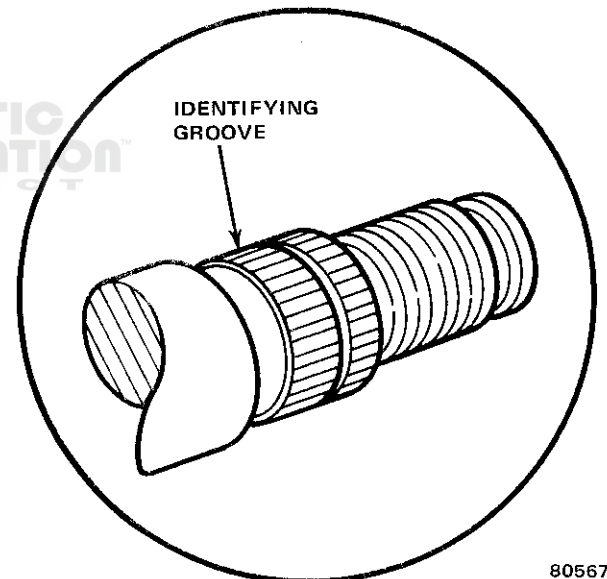

Fig. 2J-2 Metric Steering Shaft Identification
- (1) Disconnect battery negative cable.
- (2) Place front wheels in straight ahead position.
- (3) On models with standard steering wheel, remove horn cover attaching screws from underside of wheel and remove cover. On models with sport steering wheel, remove horn button by pulling button upward.
- (4) On models with standard steering wheel, remove horn wire. Disconnect wire at steering wheel switch. Unseat retainer that holds horn wire and spring in cancelling cam yoke and remove wire, retainer, and spring as assembly.
- (5) Remove steering wheel nut and washer.
- (6) On models with sport steering wheel, remove receiver bushing attaching screws and remove bushing, horn button receiver, and contact plate.
- (7) Paint or scribe alignment marks on steering wheel and steering shaft for assembly reference.
- (8) Remove steering wheel using Puller J-21232 (fig. 2J-1).
**CAUTION:** Some steering shafts have metric steering wheel nut threads. Inspect and identify the shaft thread-type before installing a replacement nut. Metric shafts have an identifying groove in the steering wheel splines (fig. 2J-2). American thread shafts do not have this groove.